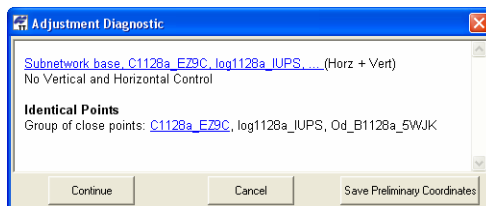

Figure 6-17. Messages After Searching of the Identical Point
- A failed test is where the difference is less than the values set in the *Job Configuration* dialog box. The network adjustment process will be interrupted and the *Adjustment Diagnostic* dialog box will display (Figure 6-17).